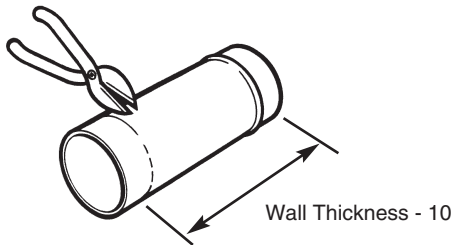

Fig. 71
5. Mark off the dimension, wall thickness - 10mm (³/₈ in), measuring from the beaded end of the duct and cut off the remaining length of the duct. Ensure that the cut is square and reasonably straight (Fig. 71).